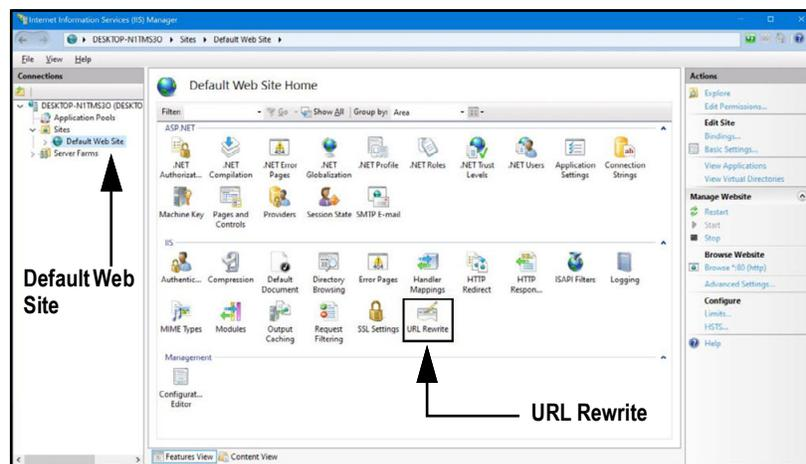

Figure 2-7. Internet Information Services Manager
- Windows Features window displays (see Figure 2-7 on page 12).